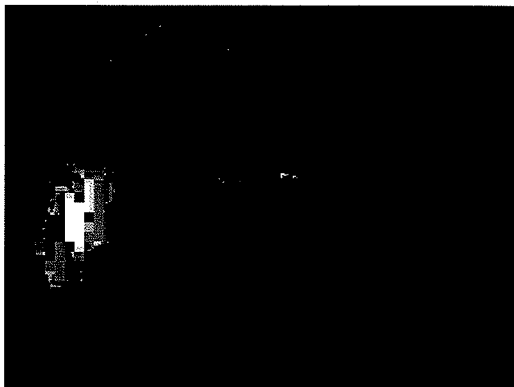

Figure 42
2. Locate two black wires tied together and marked "reset sw" (see figure 42).